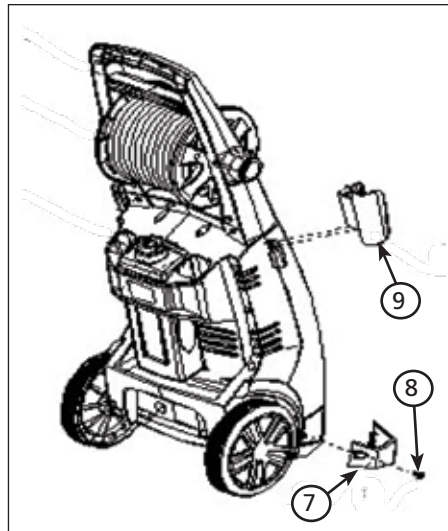

Figure 9 - PW1835 only
1. Slide upper gun hook (9) onto unit (see Figure 9).
2. Rotate lower hook (7) into slot in unit.
3. Attach lower hook (7) with phillips screw (8).